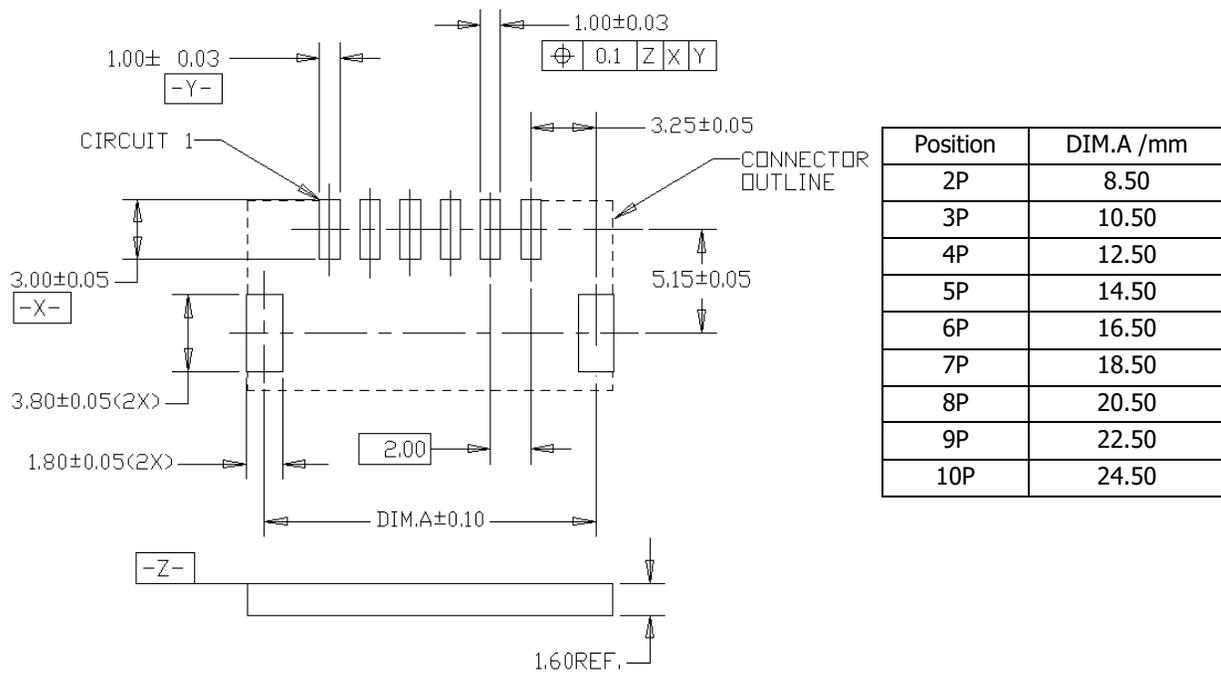

Figure 12
- Recommended PC board pad pattern, dimensions, and tolerances are shown in Figure 12 for Right Angle SMT Type.